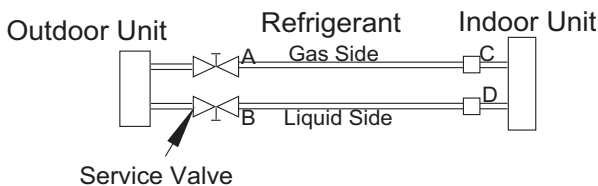

Fig. 6 – Service Valve
1. Completely tighten flare nuts on the line set at both the indoor and outdoor units. **DO NOT** open the service valves on the outdoor unit for the new installation or the replacement unit. Open the service valves on the outdoor unit if repairs have been made to the refrigerant sealed system. Connect the manifold gauge low pressure hose to the charge port of the gas side service valve (see Fig. 6).